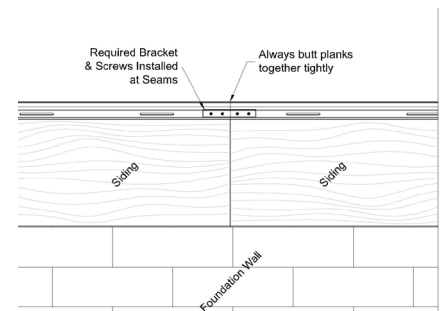

Figure 7
- Proper installation of seam brackets ensures all planks in a course are securely tied together and will be able to expand and contract freely as a single unit within pocketed trim (Figure 7).
- Butt planks together tightly at seams before installing the seam bracket (Figure 7).